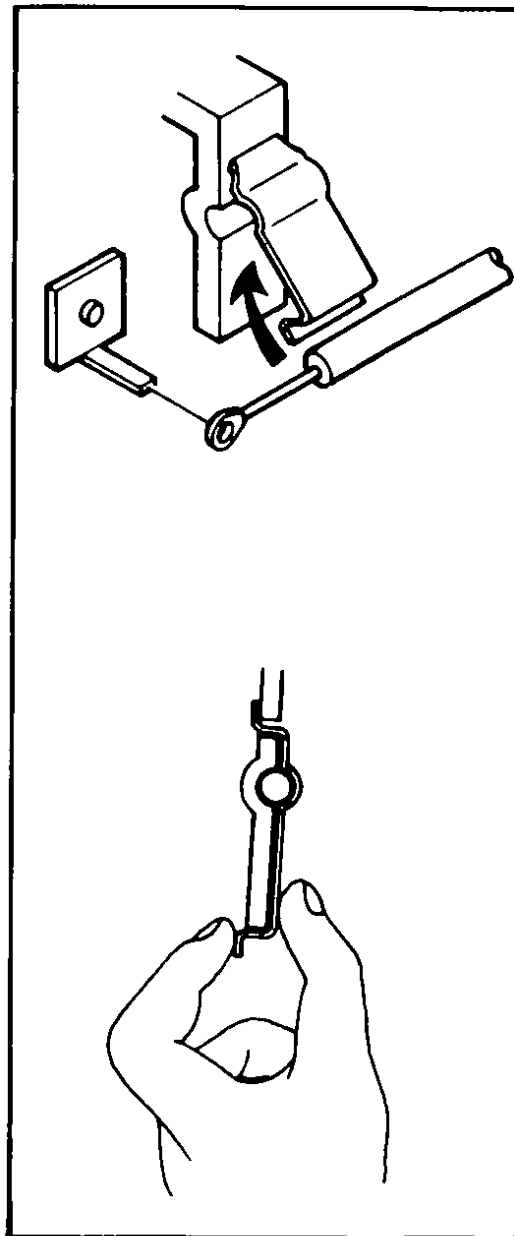

*Fig 98 Removing clips
- Remove the clips and disconnect the control wires and the rod at the heater cock, air intake valve, heat valve and ventilator valve, Fig 98